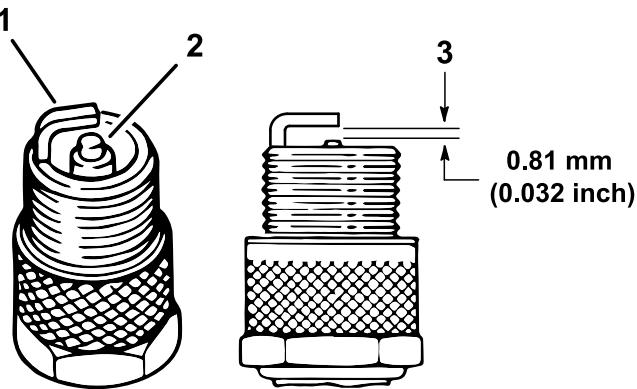

Figure 37
4. Check the condition of the side electrode, center electrode, and center electrode insulator to ensure that there is no damage (Figure 37).
5. Set the air gap between the center and side of the electrodes at 0.81 mm (0.032 inch) as shown in Figure 37.